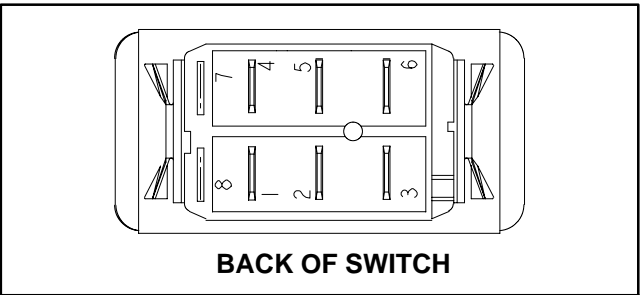

Figure 40
3. With the use of a multimeter (ohms setting), the switch functions may be tested to determine whether continuity exists between the various terminals for each switch position. The switch terminals are marked as shown in Figure 40. The circuitry of this switch is shown in the chart below. Verify continuity between switch terminals for each switch position.